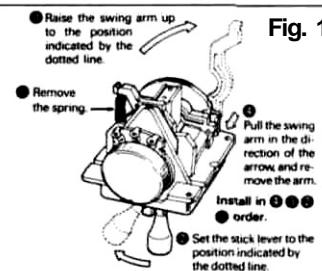

Fig. 13
- Open the rear cover of the transmitter, and replace as shown in Fig. 13